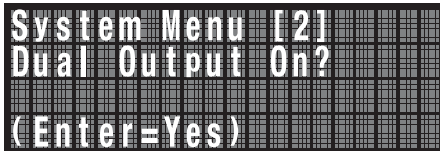

Fig. 6.24
1. Press the Menu key and use the arrow keys to scroll to the Dual Power Mode (On/Off) option. Press the Enter key (see **Figure 6.24**).